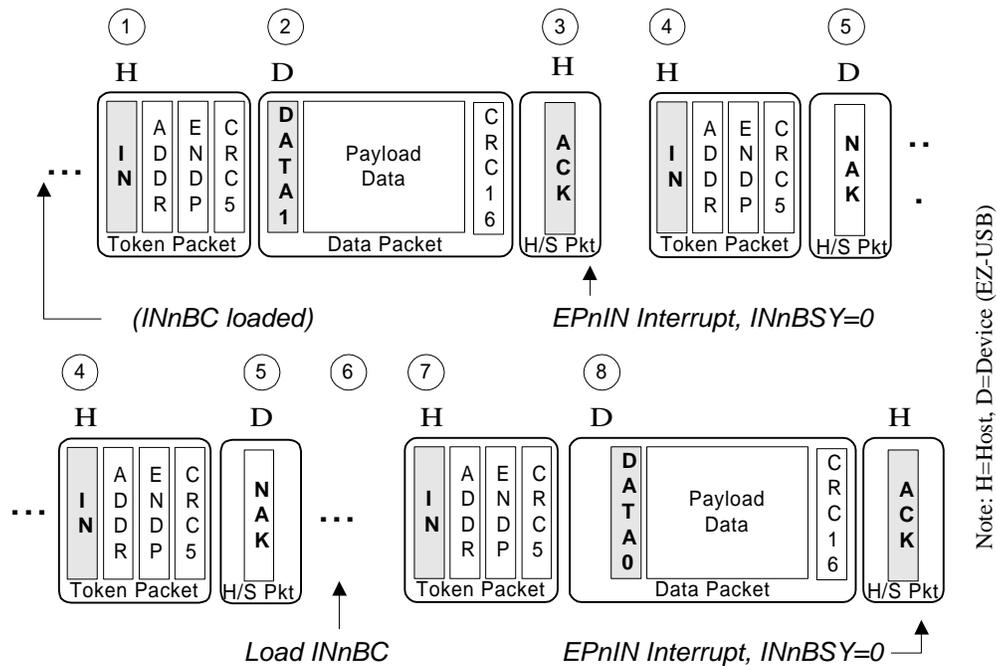

Figure 6-3. Anatomy of a Bulk IN Transfer
In the bulk IN transfer illustrated in Figure 6-3, the 8051 has previously loaded an endpoint buffer with a data packet, and then loaded the endpoint’s byte count register with the number of bytes in the packet to arm the next “IN” transfer. This sets the endpoint’s BUSY bit. The host issues an IN token ①, to which the EZ-USB core responds by transmitting the data in the IN endpoint buffer ②. When the host issues an ACK ③, indicating that the data has been received error-free, the EZ-USB core clears the endpoint’s BUSY bit and sets its interrupt request bit. This notifies the 8051 that the endpoint buffer is empty. If this is a multi-packet transfer, the host then issues another IN token to get the next packet.